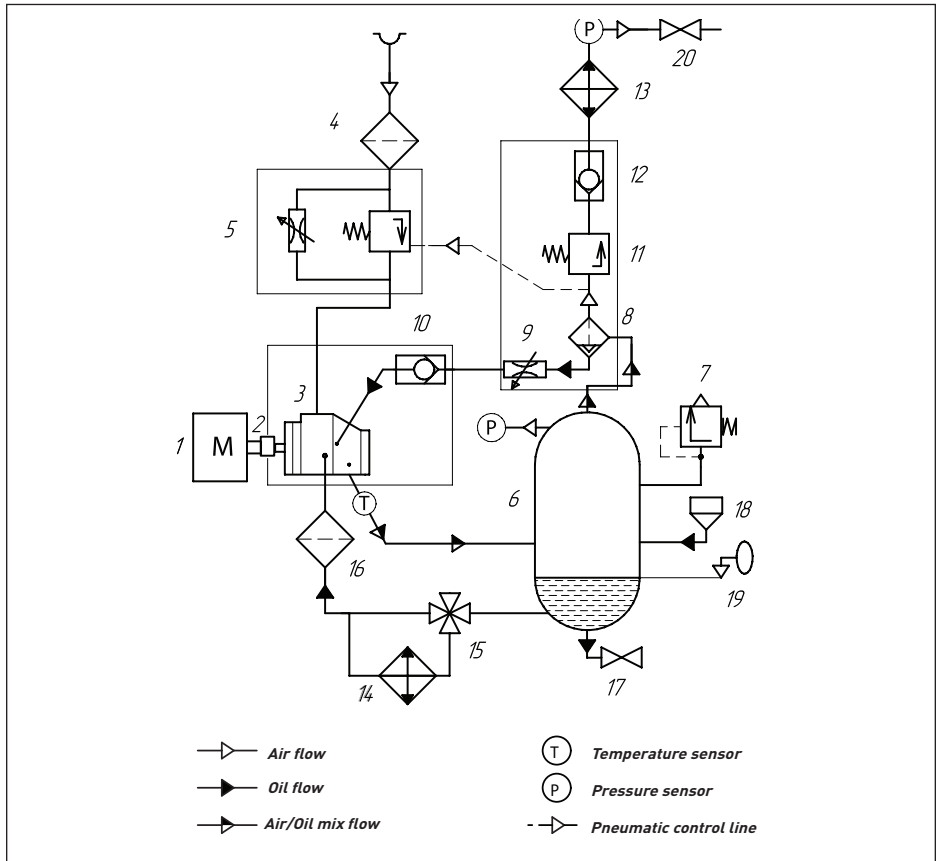

Fig. 2.3 Function diagram DV75-90
2.4 Functional description (see Fig. 2.3)